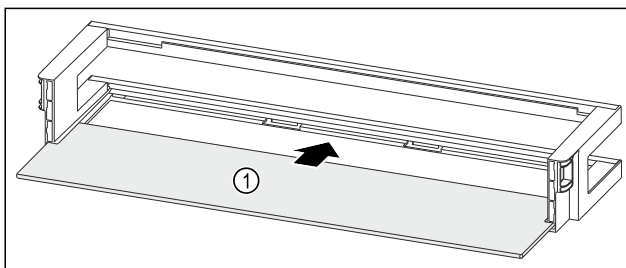

Fig. 99 Door rack with shelf
- ▶ Push the shelf Fig. 99 (1) into the side recesses.